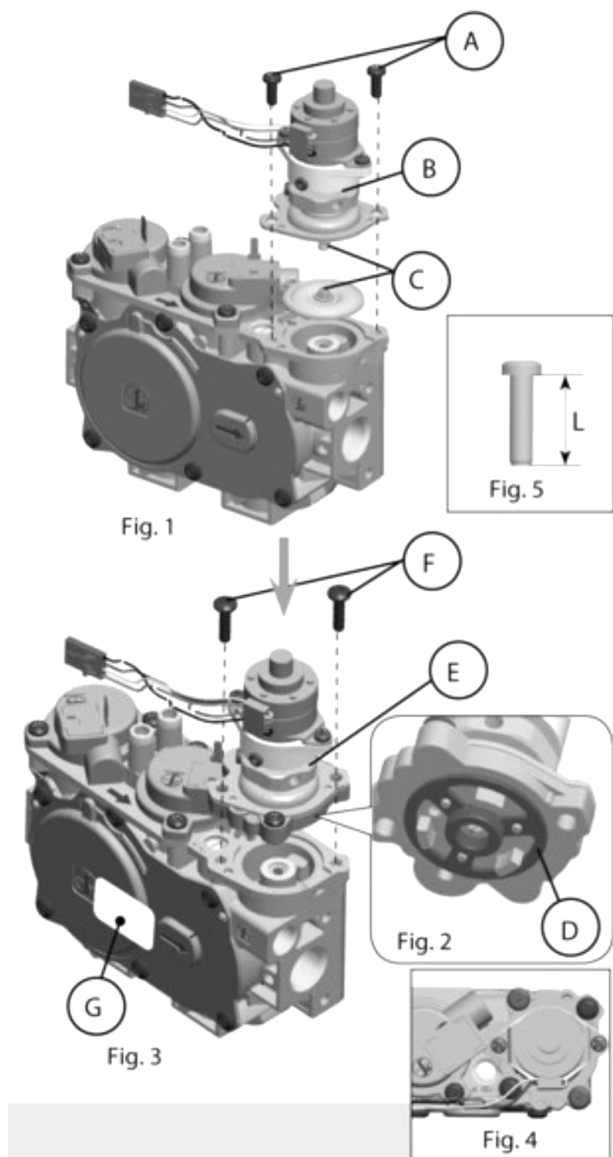

Figure 4-15 Pressure Regulator Conversion
2. See Figure 4-15- 2: Ensure the rubber gasket (D) is properly positioned. The rubber gasket is pre-fitted as part of assembly (E).
3. See Figure 4-15- 3 and Figure 4-15-4: Install the new stepper motor pressure regulator assemble. Use the provided screws (F), M4 x 0.7 threaded; length of thread  $L = (16\text{mm} + 0 - 0.5\text{mm})$ , steel material, resistance class 8.8 (Figure 4-15-5).
6. Install the enclosed identification label (G) to the valve body where it can be easily seen.